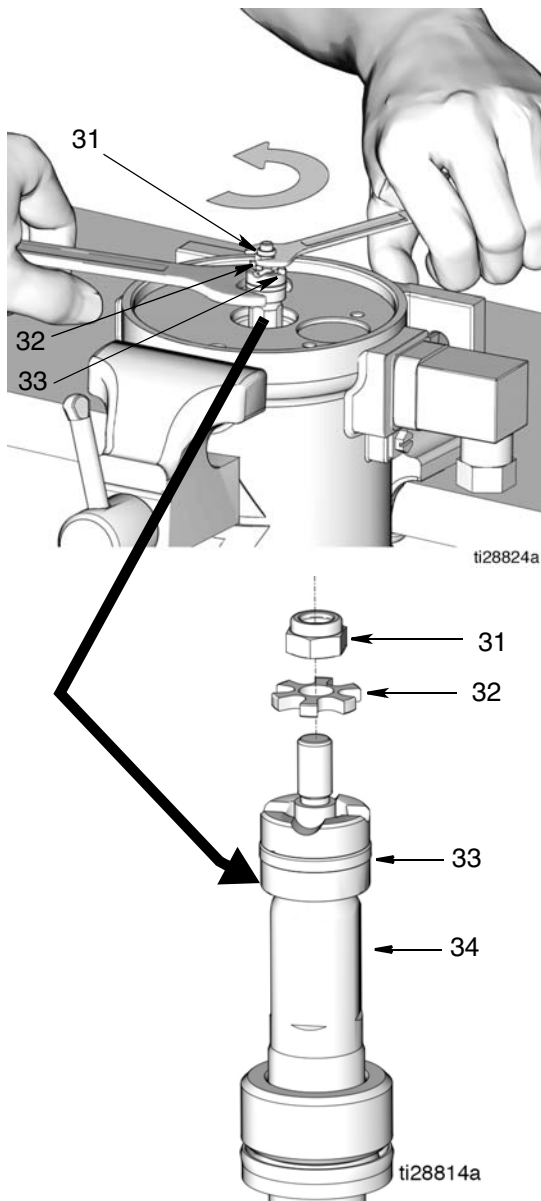

FIG. 18
15. Pump Piston Subassembly (33)
Secure a wrench on the flats of piston rod (34). Use a second wrench to remove lock nut (31) and star washer (32) from top of piston (FIG. 18). Remove lock nut and star washer. Keep these parts for reassembly.